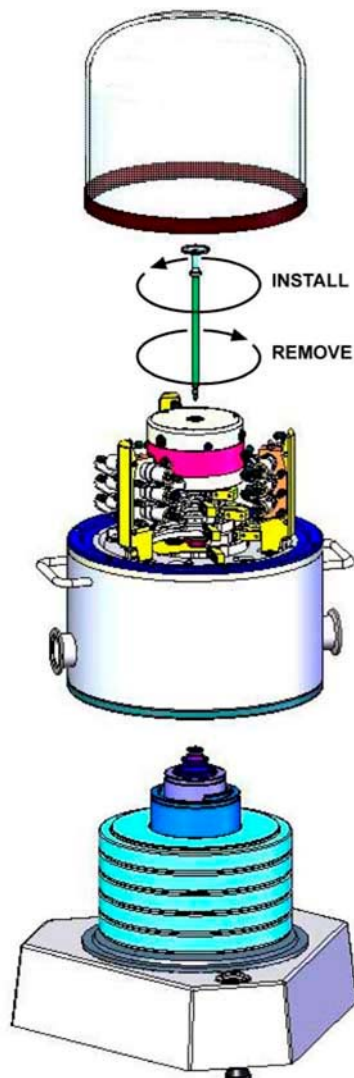

Figure 50. AMH-38 installation on PG7601 Platform
To remove the AMH-38 mass handler from the PG7601 Platform, proceed as follows (see Figure 50).
To install the AMH-38 mass handler on the PG7601 Platform, first install the mass set (see Section 6.5.2). Then proceed as follows (see Figure 50).
- ❶ **Insert the mass lifting shaft into the AMH:** With the AMH-38 sitting on a flat surface and with all pneumatic and electrical connections in place, insert the mass lifting shaft into the hole in the center of the AMH mass lifter and slide it down until the trim mass tray sits on the top of the lifter. This arrangement trips the AMH's internal proximity sensor allowing the AMH system to be operated off of the PG7000 Platform without an actual mass load.
- ❷ **Clear the AMH and test its operation:** On the PG7000 Terminal, press **[SPECIAL]**, **<8AMH>**, **<2control>**, **<3loadall>**. The trim mass tray should rise approximately 2.5 cm (1 in.) above the top of the lifter. Then the trim mass tray should be lowered back down. The steps of this procedure are commented on the PG Terminal display as they occur. If the sequence does not complete and/or any error messages are observed, see the AMH Operation and Maintenance Manual for troubleshooting assistance. If the sequence completes, the mass handler has been cleared and put into a known state in which all mass holding ledges and pins are retracted so that it can safely be slipped down over the mass set and installed on the PG7000 Platform (see Figure 50).